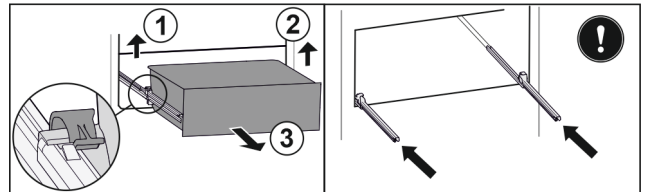

Fig. 129
- Lift left clamp and simultaneously pull drawer forwards on the left. Fig. 129 (1)
- Lift right clamp and simultaneously pull drawer forwards on the right. Fig. 129 (2)
- Remove drawer to the front. Fig. 129 (3)